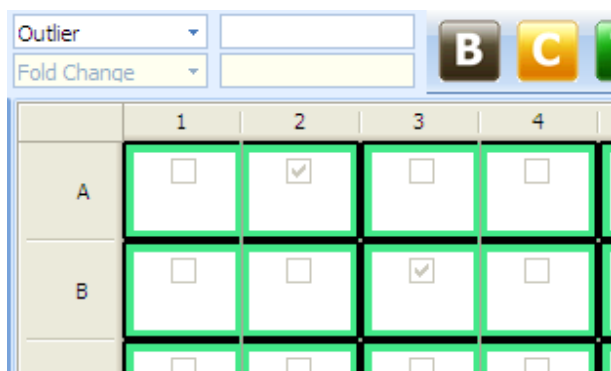

Figure 4.20 Display outlier status
1. Select 'Outlier' data type from upper drop-down list or lower drop-down list (Figure 4.20).